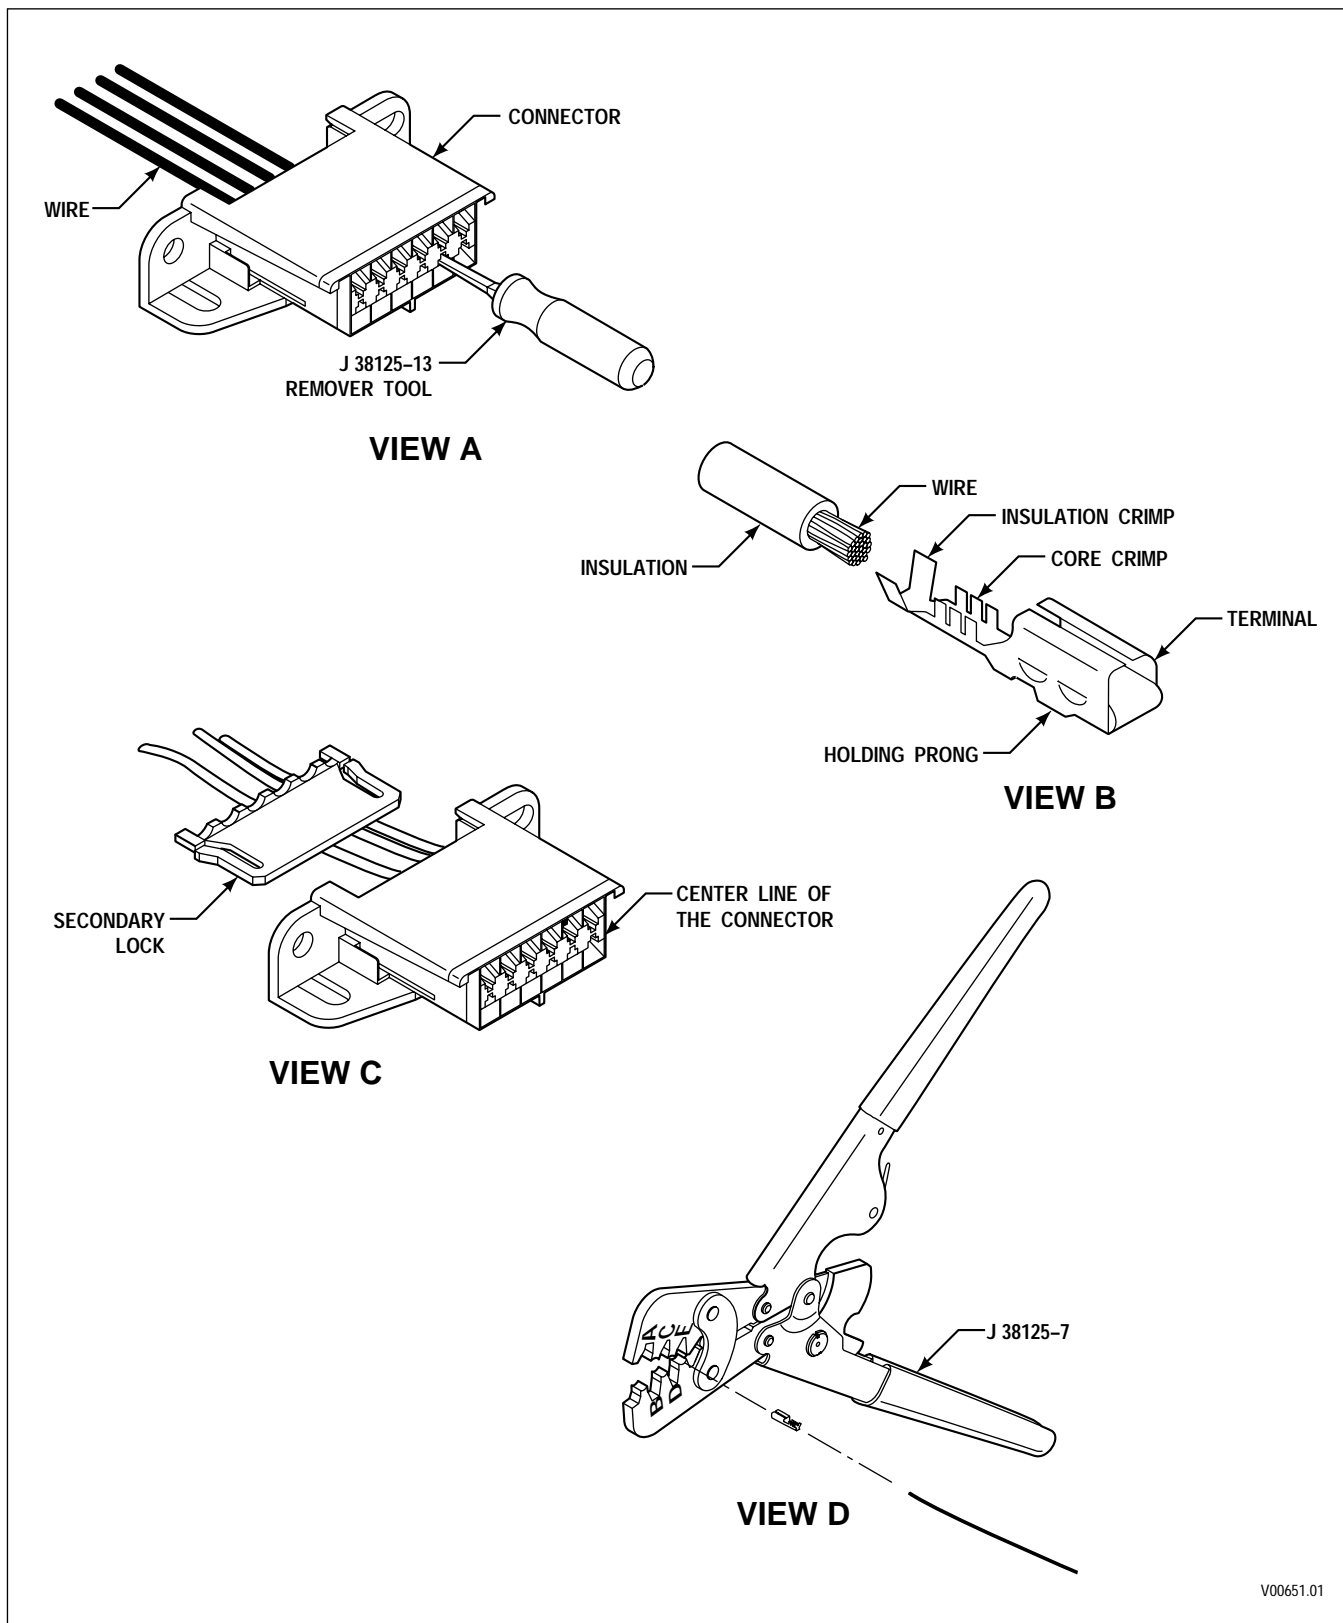

Figure E-5. Packard Metri-Pack 280 Series Connectors — Push-to-Seat (DDR)
1. Remove secondary lock from back of connector (Figure E-5, View C). (Use a small screwdriver or pick in the slots on each side of the connector.)
2. Insert terminal into crimping tool (Figure E-5, View D), anvil “2.”
4. Align the terminal with its position in the connector and insert wire so that the stripped portion of the wire is in the core crimping area and the insulated portion of the wire is in the insulation crimping area (Figure E-5, View B).
5. Crimp the stripped section of the wire (Figure E-5, View D).
7. Use a pair of needle nose pliers, if necessary, to start the bend on the insulation crimp wings (Figure E-5, View D).
8. Crimp the insulated section of wire using anvil “A” of the crimpers shown (Figure E-5, View D).
11. Insert terminal into connector with the lock tab toward the center line of the connector (Figure E-5, View C).